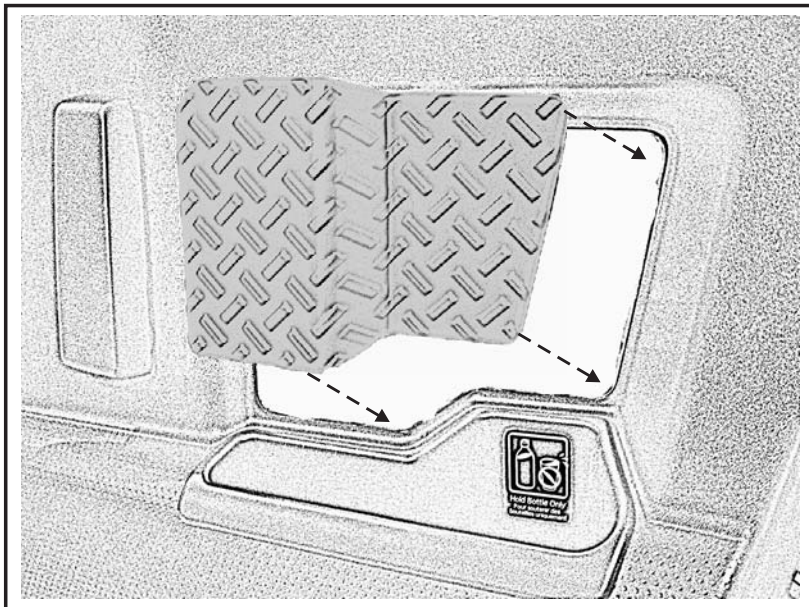

Fig. G1
- ⚠ A. Align part uniformly to edge of factory components. Edge of appliqué should be flush to edge of factory component, ±1.0mm. (Fig. G1).